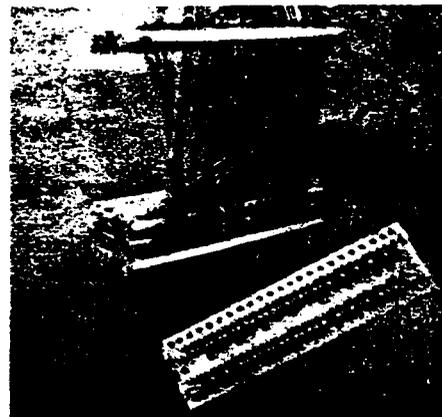

FIG. 40 REMOTE PROBING CONNECTOR
4.424 To aid in the continuity probing procedure, the remote or probing end of the test connector cable can be attached to a remote receptacle/module assembly. The exposed terminals on one side of the module can be used as probing points. The test cable and test connector wiring must be verified for correctness with half-tap to be checked. See Fig. 40.